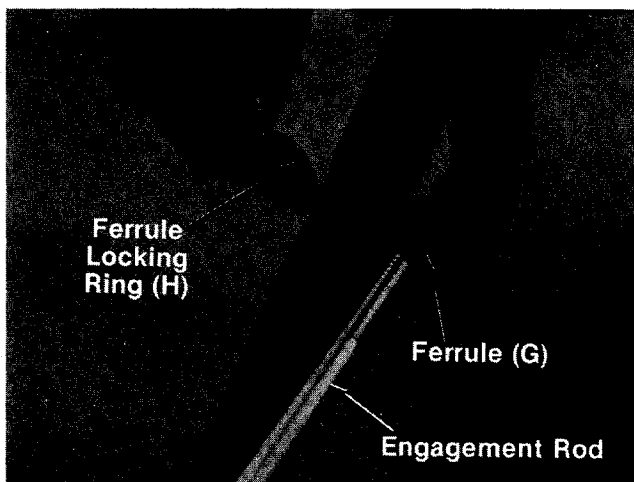

FIGURE 10.
17. With handle in the down position (released), place ferrule (G) on threaded end of engagement rod. Thread ferrule onto engagement rod until it lines up with the hole in lower handle.
18. Place ferrule into hole in lower handle. Secure with ferrule locking ring (H). See figure 10.